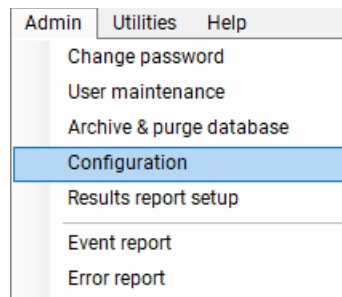

Figure 101 Admin menu
- 1 To enable enhanced security features in the Fragment Analyzer software, select **Configuration** from the **Admin** menu (**Figure 101**).
- 1 From the **Admin** drop-down menu, select **Event Report** (Figure 101).